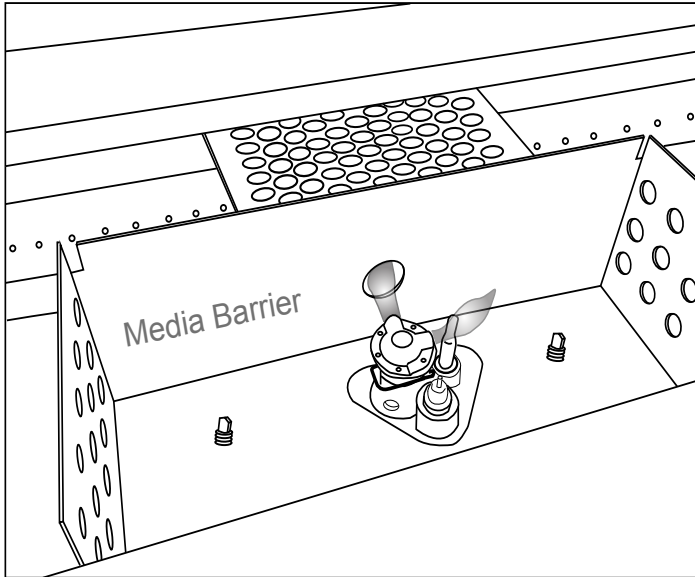

Fig. 33 Proper pilot flame through ignition hole.
**Step 23:** The pilot assembly is located in the center of the burner. Ensure the pilot flame is passing through the ignition hole, to the burner for proper ignition. Use the Fig. 33 as a guide.